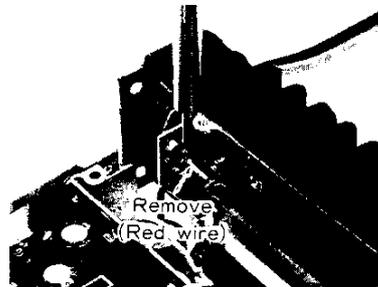

Figure 5d
e) Pull the heatsink back slightly from the chassis (Figure 5d), and unsolder the heavy red wire from the stand-off.